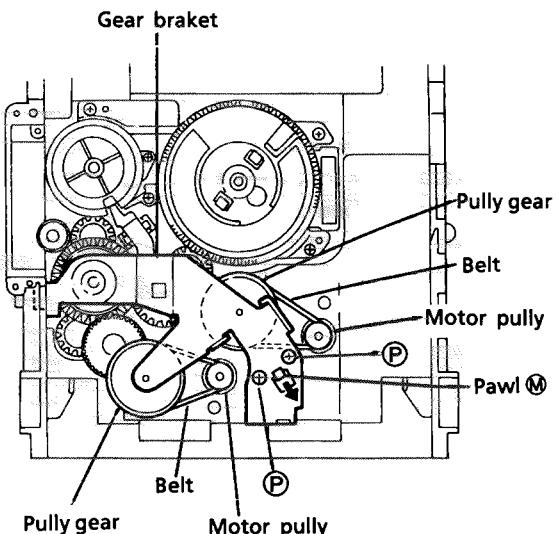

Fig. 37
1. Remove 2 screws **P** securing the gear bracket. (See Fig. 37.)
2. Press the pawl **M** securing the gear bracket to the arrow in the figure to remove the gear bracket. (See Fig. 37.)
4. Remove each belts from the both actuator motor pulleys and the pulley gears. (See Fig.37.)